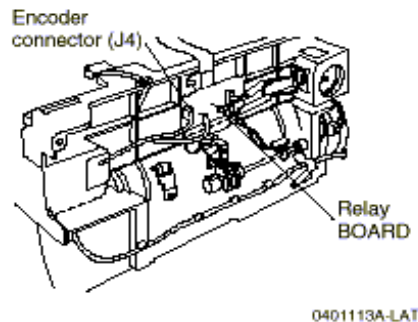

Figure 3.
7. Position the Paper Feed / Carriage Assembly as shown in Figure 3..
8. Disconnect the Encoder connector (J4) from the Relay BOARD (Figure 3).